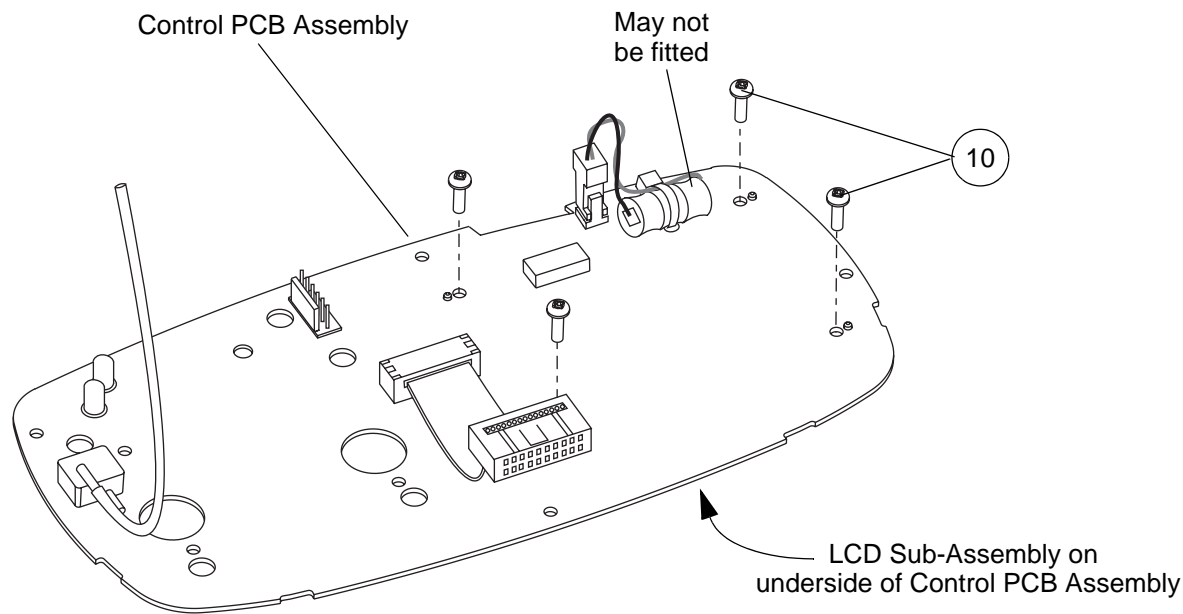
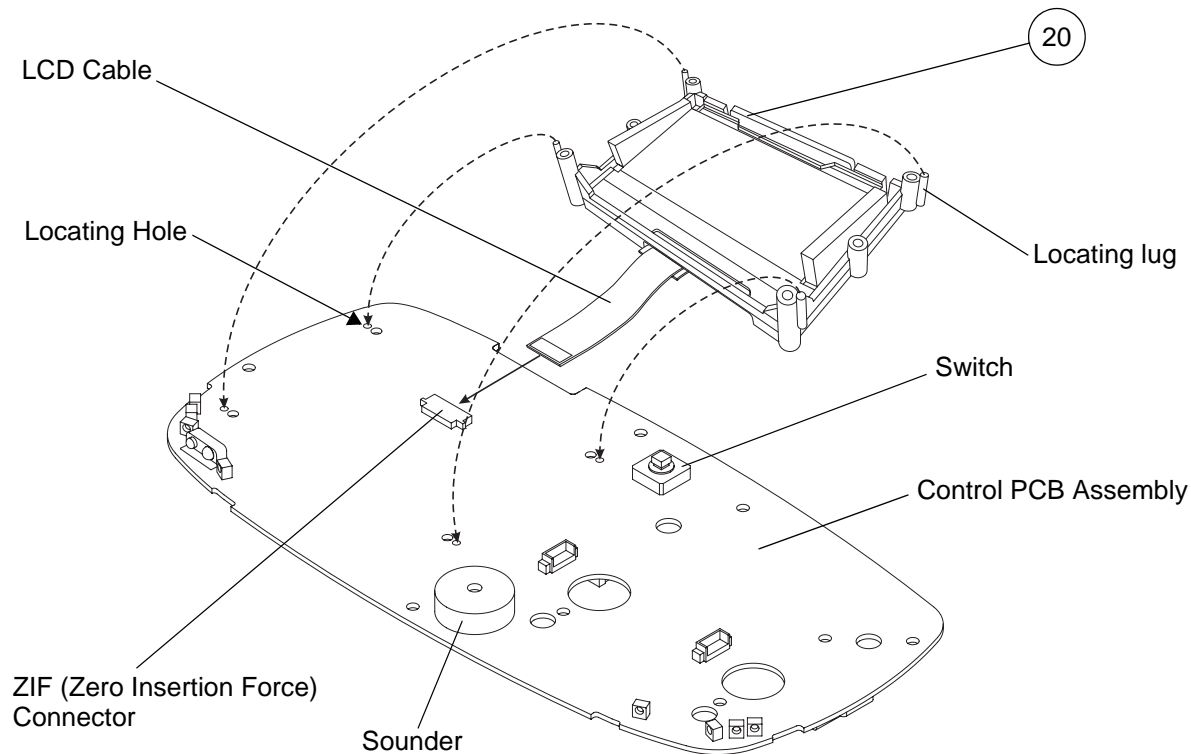

Figure 51 - Removing the LCD Sub-Assembly Screws from the Control PCB Assembly
Figure 52 - Installing the LCD Sub-Assembly onto the Control PCB Assembly
- 28.3 Put the complete control PCB assembly on a flat surface, so that the LCD (Fig 52, Item 20) sub-assembly is on the underside (refer to Figure 51).
- 28.4 Remove the four screws (Fig 51, Item 10) which secure the LCD sub-assembly to the control PCB assembly. Retain the screws for the installation procedure.
- 28.6 Carefully lift the LCD sub-assembly off the control PCB assembly, and rotate it in the direction of the LCD cable, until it is lying on a flat surface adjacent to the edge of the control PCB assembly (refer to Figure 52).
- 28.7 To remove the LCD cable from the ZIF socket on the control PCB assembly, do the following (refer to Figures 52 and 53):
- 29.1 Position the new LCD sub-assembly (Fig 52, Item 20) by the side of the control PCB assembly, as follows:
- 29.1.1 Put both assemblies on a flat surface (refer to Figure 52):
- 29.1.4 Ensure the orientation of both assemblies is as shown in Figure 52. The LCD cable should be adjacent and “pointing” towards the ZIF socket.
- 29.2 To connect the LCD cable (on the new LCD sub-assembly) to the ZIF socket on the control PCB assembly, do the following (refer to Figures 52 and 53):
- 29.3 Carefully rotate the LCD sub-assembly onto the control PCB assembly, and put the four locating lugs in the LCD sub-assembly into the corresponding holes in the control PCB assembly (refer to Figure 52).
- 29.4 Hold the LCD sub-assembly in position on the control PCB assembly, and turn the complete control PCB assembly over so that the LCD sub-assembly is on the underside (refer to Figure 51).
- 29.5 Install the four screws (Fig 51, Item 10) to secure the LCD sub-assembly to the control PCB assembly.